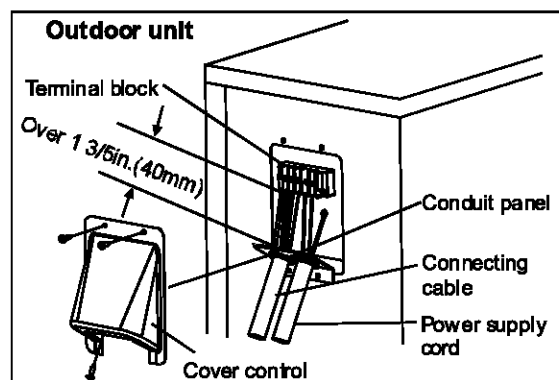

Fig.18
1. Remove the cover control from the unit by loosening the 3 screws. See Fig.18.